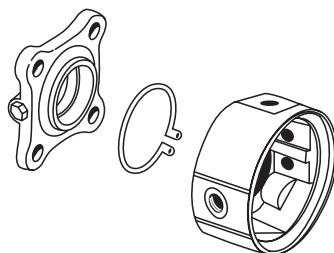
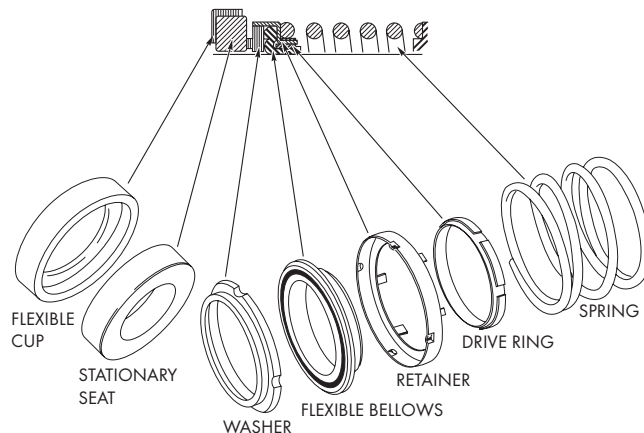

Fig. 16 1520 Water Jacket Removed.
Fig. 25 Mechanical Seal (optional)
The mechanical seal (see Figure 25) is a precision product and must be treated as such. During removal, great care must be taken to avoid dropping any part of the seal. Take particular care not to scratch the lapped faces on the washer or the sealing seat. If any wear of the seal faces is noted, it is recommended to replace with a new seal during reassembly.
- 11. For Models 1550, 1530, 1520: The water jacket (optional – 18) may now be removed by snapping retaining ring (17) off cover (26). Note position of water jacket to assure proper alignment during reassembly. (See Figure 16.) Slide water jacket(18) off cover (26) taking care not to damage gaskets (19 and 19A). Remove gaskets (19 and 19A).
- 12. On Model 1520/2520, remove capscrews (39 and 62) and washers (40 and 63) to take off supports (41 and 64). On Model 1550/2550 frame sizes 143 thru 184 JP only, unscrew capscrews (39) and remove washers (40) and support (41) from bracket (35).
- 13. Unscrew capscrews (32) to remove bracket (35) from frame (57) on Model 1520/2520 or motor on Models 1550/2550 and 1530/2530.
14. For Models 2550, 2530, 2520: The seal flexible cup and stationary seat should be pressed out of the bracket (35) and the cavity cleaned of all residue. Make sure that the 1/32" radius in the seal seat cavity is not damaged during disassembly since a sharp edge can easily cut the flexible cup during reassembly.
15. Remove key (42) from the shaft and remove slingers (47). (1520/2520)
16. Unscrew capscrews (48) and remove bearing cap (49). Remove gasket (50) and retainer ring (52). Slide out shaft (55) and bearings (53 and 54). Since bearings (53 and 54) are press fitted on the shaft, they will have to be pulled or pressed off the shaft. Remove grease seals (51) from frame (57), and bearing cap (49). (1520/2520)
17. Remove screws (33) and nameplate (34) only if replacement is necessary. (1520/2520)
1. Press grease seals (51) into frame (57) and bearing cap (49). (1520/2520)
2. Press bearings (53 and 54) onto shaft (55). Snap retainer ring (52) into place. (1520/2520)
3. Slide shaft (55) and bearings (53 and 54) into frame (57) and place gasket (50) in place. (1520/2520)
4. Fasten bearing cap (49) in position with capscrews (48). Position slingers (47) on the shaft. (1520/2520)
5. For Models 2550, 2530, 2520: The mechanical seal (27) (see Figure 25) cannot be installed as an assembly. It is necessary to have the seal seat properly in place in bracket (35) before the balance of parts can be added. Thoroughly inspect the seal cavity in seal bracket, checking for burrs or nicks which could damage flexible cup of mechanical seal. Apply a film of liquid dishwashing detergent (do not use oil or grease) to the flexible cup and seal seat. Insert seat in cup and install in seal bracket, taking care to seat it evenly and squarely.
6. On Model 1520/2520, position bracket (35) on the frame (57) and secure with capscrews (32). Tighten screws evenly to assure proper alignment. On Models 1550/2550 and 1530/2530, position bracket (35) on the motor and secure with capscrews (32). Tighten screws evenly to assure proper alignment. On Model 1550, frame sizes 143 to 184 JP only, fasten support (41) to bracket (35) with washers (40) and capscrews (39).
7. If nameplate (34) was removed, install and attach with screws (33).
8. Replace wear ring(s) (7 and 16) in casing (6) and cover (26). Rings should not be hammered into place. Use a press, or clamp the parts in a bench vise, using wooden blocks to protect the rings. It may be necessary to pin or dowel the rings after assembly if the cover or casing has had rings replaced before, since each reassembly can stretch or tear metal and thereby loosen the fits. If the facilities are available, it is good practice to take a very light finish cut or to ream the inside diameter of the casing rings after pressing to restore roundness. When rings are pressed, they may get squeezed out of shape.
9. Coat the mating surfaces of impeller wear ring(s) (optional – 14 and 15) and impeller (11) with Loctite sealant grade 271. Replace wear rings, using the same care as for the case wear ring(s). If the rings are to be trued on a lathe, do not clamp the impeller so tightly that it is permanently distorted.
10. For Models 1550, 1530, 1520: If water jacket (optional – 18) was removed it may be replaced at this time. Replace gaskets (19 and 19A) on cover (26) and carefully slide on water jacket making sure desired alignment is achieved. (See Figure 16.) Snap retaining ring (17) behind water jacket (18) in groove provided on cover (26).
The mechanical seal (27) (see Figure 25), should not be installed as an assembly. It is necessary to have the seal seat properly in place before the balance of parts can be added.
- A. Wipe the sealing faces of the seat and seal washer clean. Apply a film of liquid dishwashing detergent (do not use oil or grease) to the flexible bellows in the rotating assembly and shaft sleeve (25). Slide the entire rotating assembly onto the sleeve, making sure that the carbon washer faces away from the step in the sleeve.
- B. Thoroughly inspect the gland (23), checking for burrs or nicks which could damage flexible cup of mechanical seal. Apply a film of liquid dishwashing detergent (do not use oil or grease) to the flexible cup. Insert seat in cup and install in gland (23). NOTE: If it is not possible to insert seat with fingers, place cardboard protecting ring furnished with seal overlapped face of seat and press into place with a piece of tubing having end cut square. The tubing should be slightly larger than the diameter of the shaft. Remove cardboard after seat is firmly in place. Carefully slip the seal gland assembly (23) over the shaft with the stationary seat facing away from the motor. Insert gasket (66) over shaft.
- C. The shaft sleeve with the seal rotating assembly on it may now be replaced on the shaft. Carefully slide the seal gland (23) and gasket (66) onto the sleeve before seating the sleeve (25) against the shaft shoulder.
- D. Carefully slip cover assembly (26) over the shaft into its original position and secure with either capscrews (20 or 5).
- E. Position seal gland (23) and gasket (66) onto the cover (26) taking care to seat it evenly and squarely. Secure by tightening capscrews (65) evenly. Spring tension will probably prevent the sleeve from remaining in position axially until impeller is locked against it.
11. For Models 2550, 2530, 2520: Wipe the sealing faces of the seat and seal washer clean. Replace pin (61) in sleeve if it was removed during disassembly. Apply a film of liquid dishwashing detergent to the washer and bellows of the seal and slide the remaining seal parts onto the sleeve, making sure the washer is seated against the seal seat. Check the proper sequence of assembly as indicated in Figure 25. The shaft sleeve with the seal rotating assembly on it may now be replaced onto the motor shaft. Spring tension will probably prevent the sleeve from remaining in position axially until the impeller is locked against it.
12. Carefully place gasket (10) on motor end of impeller. Assemble key (12) and impeller (11) to motor shaft. Secure impeller with gasket (9B), washer (9A), capscrew seal (9C) and impeller screw (9).
13. On Model 1520/2520, fasten the supports (41 and 64) to bracket (35) and frame (57) with washers (40 and 63) and capscrews (39 and 62).
14. Install the pipe plugs (4) in the pump casing (6). Position gasket (8) and casing (6) against the cover (26) and secure with capscrews (20 or 5).
15. Reassemble sealing tube assembly (optional – 69, 70, 71, and 76) in water jacket (optional – 18) as shown in Figures 16 and 19. Replace all relief, cooling, flushings, or drain lines from the pump including compression connections (1 and 2) and tubing (3). On Model 1530/2530, position gasket (72) and set pump assembly in place. Tighten pump to base (73) with capscrews (39). Replace plugs (74 and 75). Replace all grease fittings, pipe plugs, tube vents and oiler assembly for oil lubricated units.